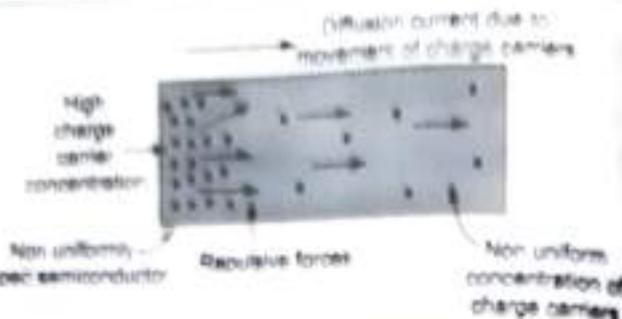

Fig. Q.16.1 Diffusion Current
- This movement of charge carriers under the process of diffusion constitutes a current called diffusion current. This is shown in the Fig. Q.16.1.